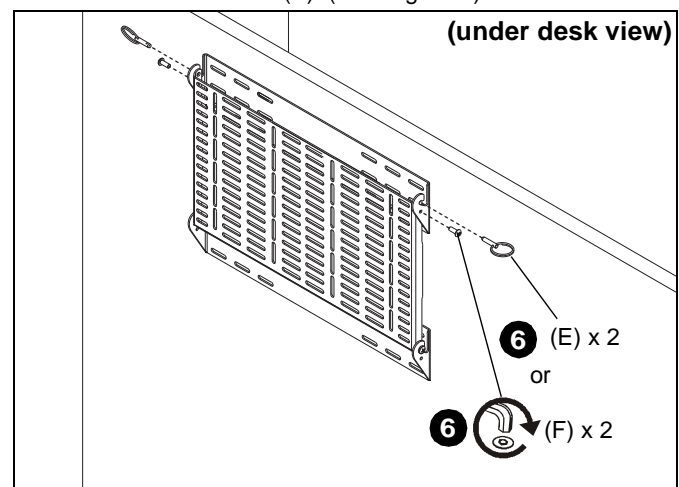

Figure 5
6. Use either two quick release pins (F) or two #10-24 1/2" button head security screws (E) to secure CSPH desk plate to front desk bracket (B). (See Figure 5)